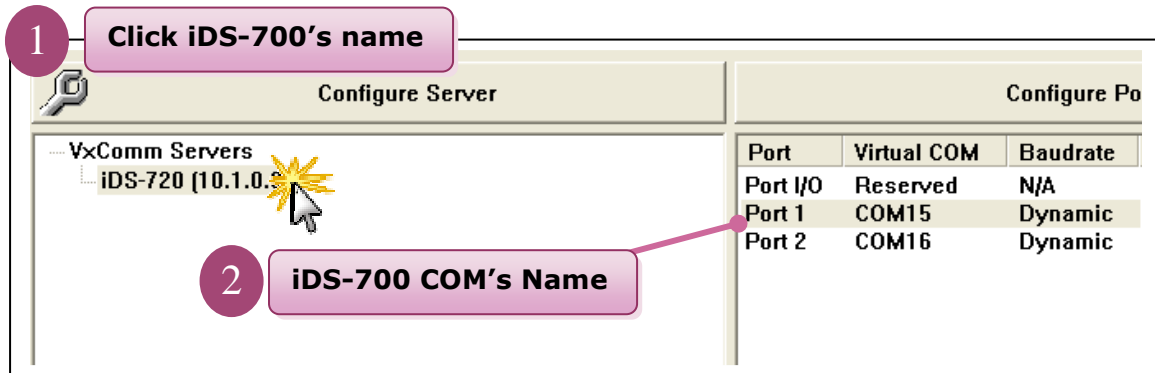

Fig 4-4
3. Click on **iDS-700's name** and check the virtual COM port mappings on the PC, please refer to Fig 4-4.